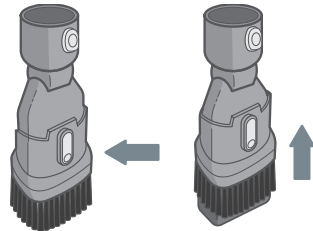

Figure 1.3
- Press button to slide bristles up/down and switch between upholstery brush and duster [Figure 1.3].